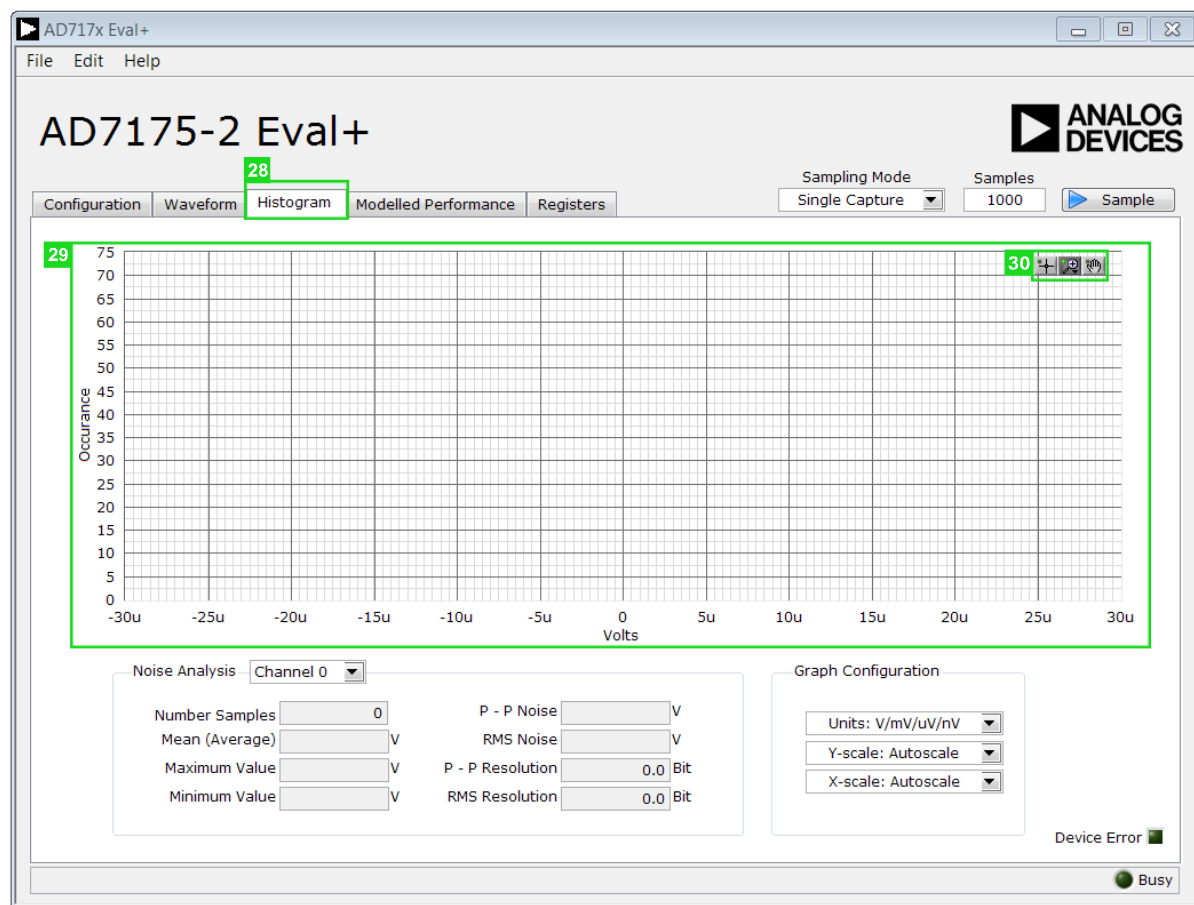

Figure 19. **Histogram** Tab of the AD7175-2 Eval+ Software
Figure 19 shows the **Histogram** tab of the AD717x Eval+ Software.
The data histogram graph (29) shows the number of times each sample of the ADC output occurs. The control toolbar (30) in the histogram graph allows the user to zoom in on the data (see Figure 19). Click the x-axis and y-axis to change the scales on the graph (see Figure 19).